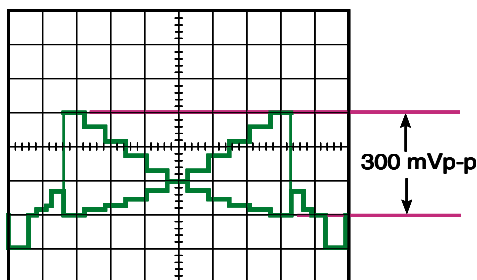

Fig. 4-2
- Set the Lens Iris so that the peak level of the Gray Scale from the Blanking level becomes 300 mVp-p as shown in Fig. 4-2.
- Adjust R306 so that the Rch peak level of the Gray Scale from the Blanking level becomes 300 mVp-p as shown in Fig. 4-2.
- Adjust R106 so that the Bch peak level of the Gray Scale from the Blanking level becomes 300 mVp-p as shown in Fig. 4-2.